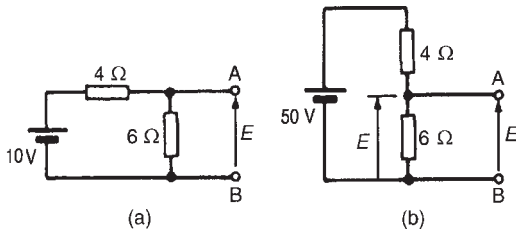

Figure 13.30
- (ii) The open-circuit voltage, E , across terminals AB in Fig. 13.30(a) is the same as the voltage
across the $6\ \Omega$ resistor. The circuit may be redrawn as shown in Fig. 13.30(b)